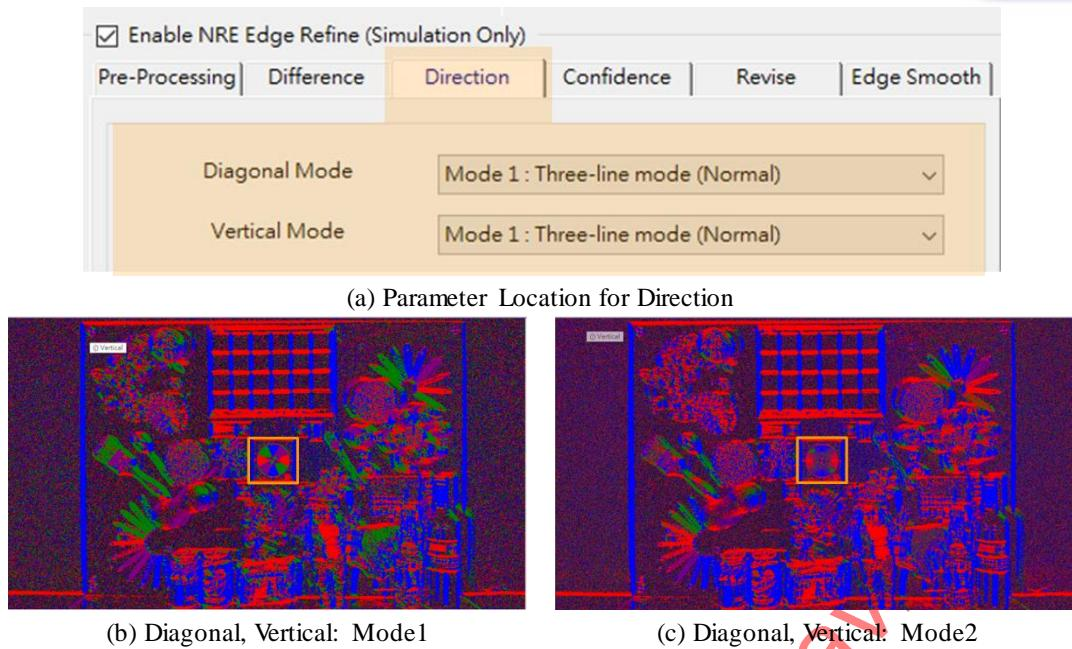

Fig. 5-128 Check the Direction Map
- Check the Direction Map to make sure that the direction of the edge you want to smooth is detected. As shown in Fig. 5-128.